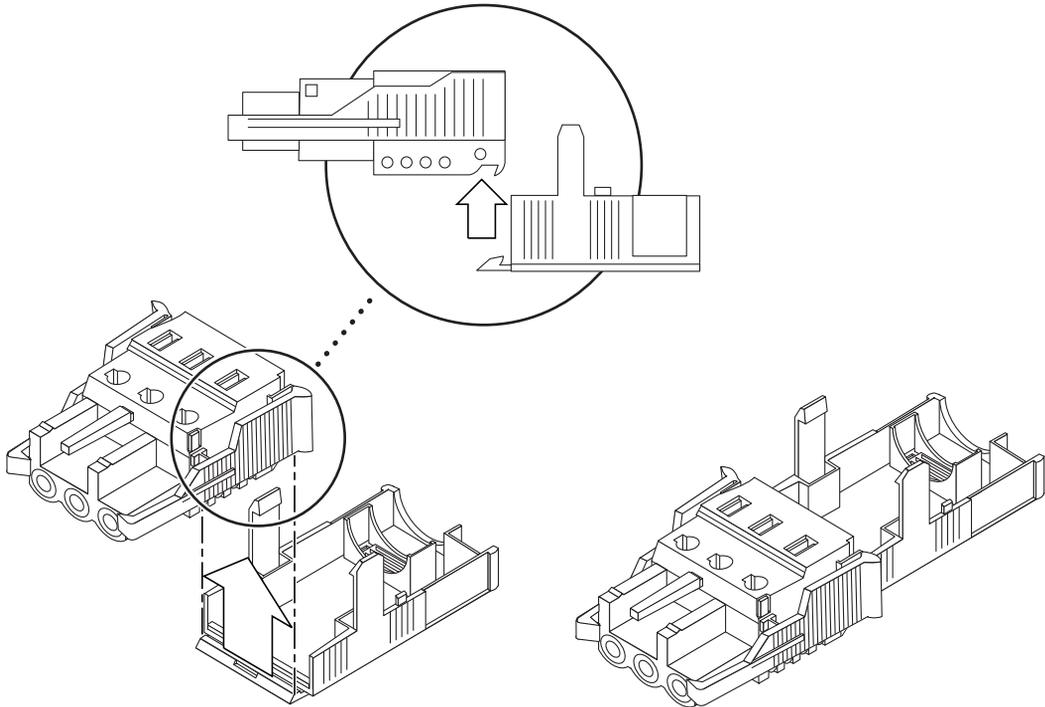

FIGURE 2-9 Inserting the Bottom Portion of the Strain Relief Housing
1. Insert the bottom portion of the strain relief housing into the notch on the DC connector until it snaps into place as shown in FIGURE 2-9.